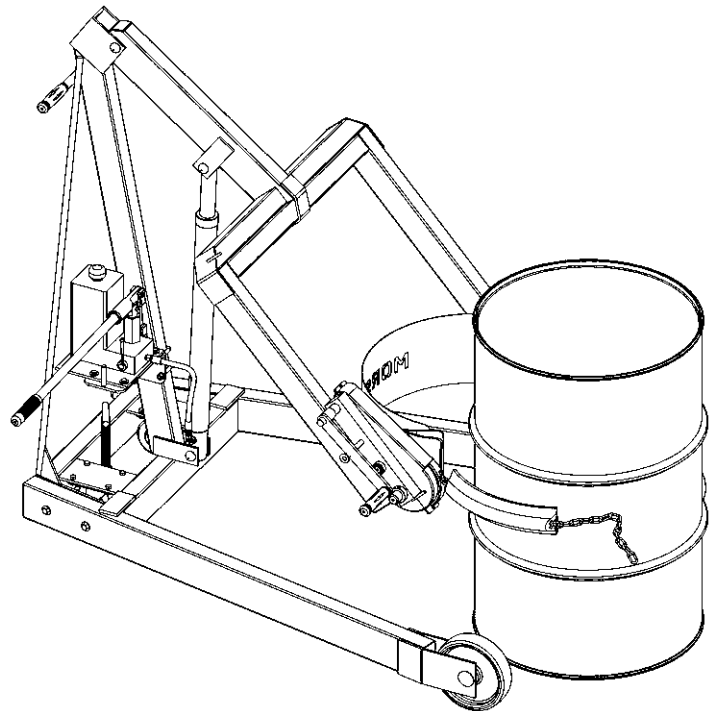

Figure 3.1
The screw-down floor lock is located on the base of the tower (figure 3.1). Turning the floor lock clockwise until it locks in the down position activates the floor lock. When the floor lock is activated it prevents unwanted free wheeling of the unit. Floor conditions determine the effectiveness of the floor lock. The operator should verify its holding action before depending on it to hold.
2. Using the "LIFT" control as described in "Machine Description - Controls" (page 3), position the drum holder assembly with the back band at the middle of the drum. (Figure 3.1). With the ratchet plate swung open and the cinch chain hanging from the chain hook, push the unit until the back band rests firmly against the drum. Some adjustment to the tilt angle of the saddle may be necessary to ensure band fits flush on the drum.